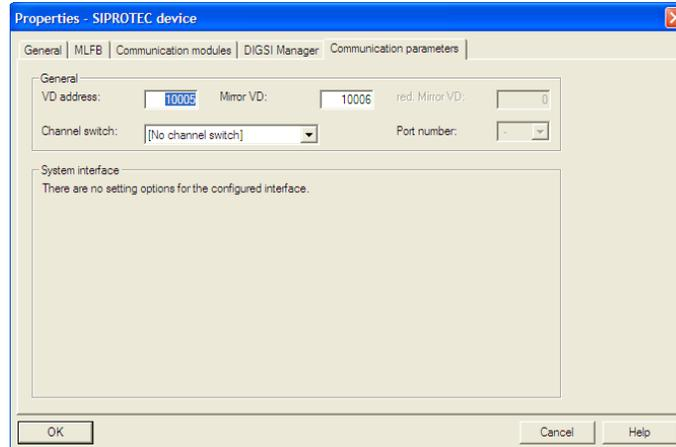

Figure 1. Object (setting file) VD address is reported, and can be changed in Properties
The VD address can be located and changed in the setting file via the Object Properties dialog (see Figure 1 example). The VD address of the relay can be found via the LCD display using the appropriate front panel keys [Main Menu -> Settings (4) -> Setup/Extras (10) -> Device-ID (5)]